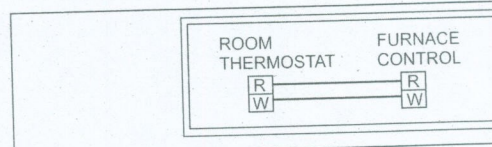
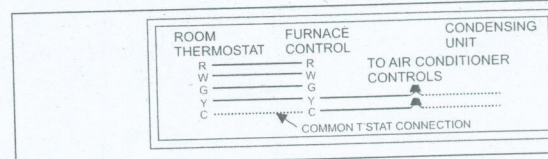

FIGURE 17: Wiring for Heat Only Thermostat
FIGURE 18: Wiring for Electronic Heat-Cool Thermostat
- Connect the thermostat wires to the furnace low voltage pigtail. See Figure 17 (heating only) and Figure 18 or 19 (heating/cooling).